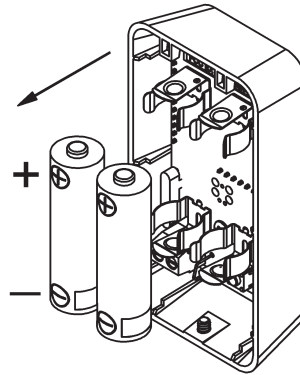

Fig. 10: Battery removal
- Battery Replacement:** Remove the batteries from their holders and discard (Fig. 10). Replace with new batteries in the correct orientation (Fig. 11).